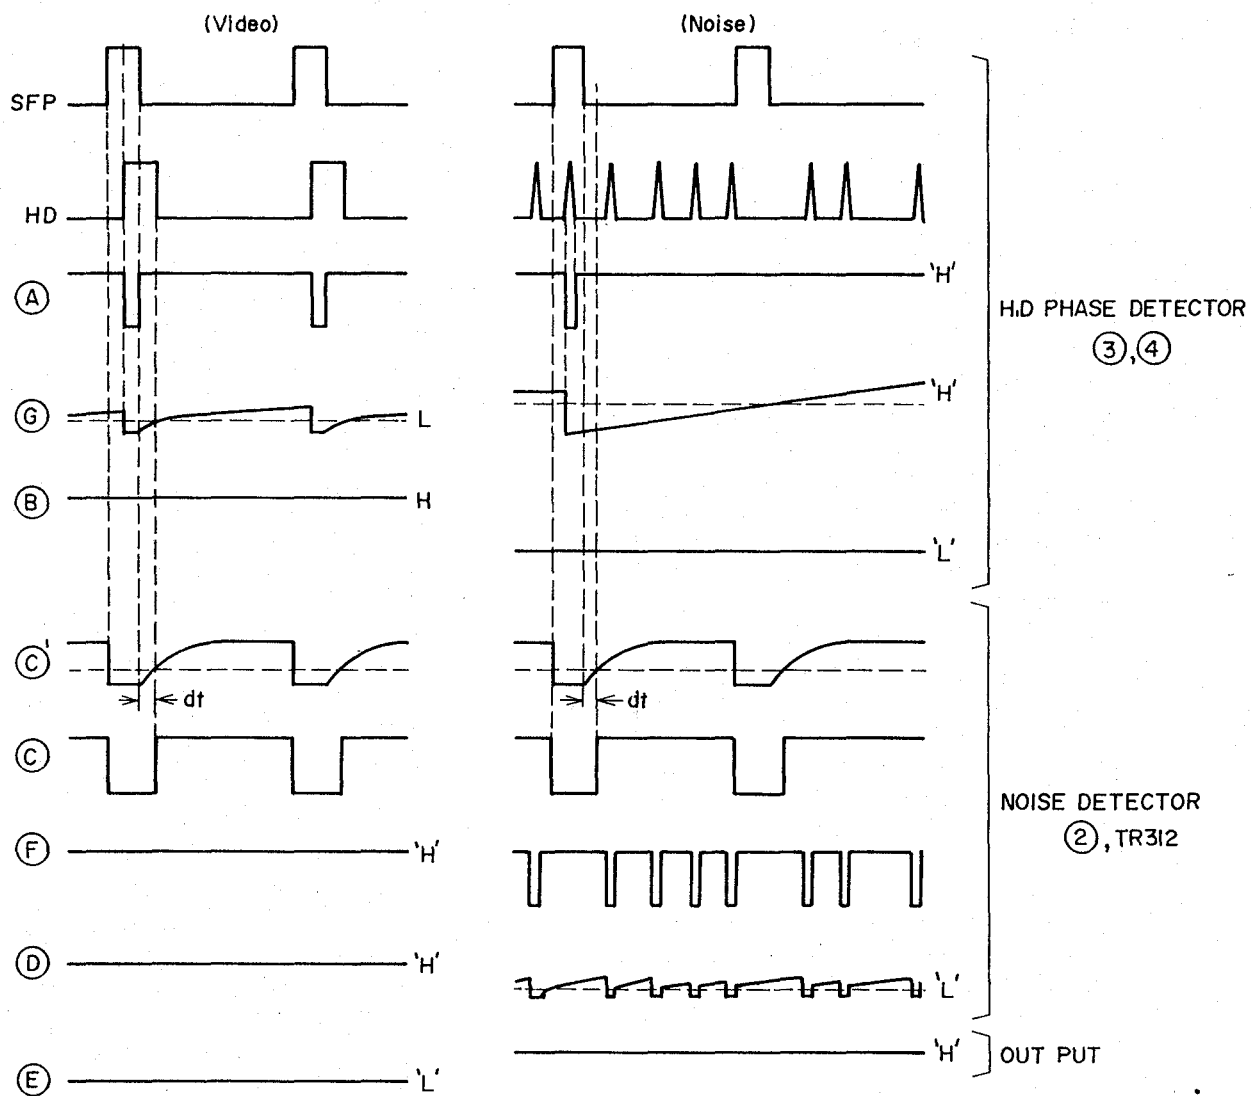

Fig. 30
When the video signal is correctly inputted into the video amplifier, 160 fH is locked by the input sync and has the same phase, and at that time, the output will be "L" at the point where the phases are in conformity as shown in (A). Since the time constant of the discharging direction of C324 of R366//D308 and C324 circuit is almost '0', (G) is made 'L' by the pulse. In the case of noise, it is very rare that the phases of SFP and noise are in conformity and that (A) becomes 'L', and the level is 'H'. Gate 2 and TR312 are the circuits to check that there is no noise in the part other than the sync. SFP is inverted by TR312, and the leading edge of waveform (C) is delayed by dt by C325. Therefore, it becomes 'H' when it is in the oblique line part of the waveform (C). If there is video input, the phases of (C) and HD are in agreement and (F) keeps 'H', but in the case of noise, it becomes 'L' when noise is inputted. In C323, R365 (charging circuit) and C323, R369 (discharging circuit), R365 >> R364, so the level of (D) is 'L' and output E is H. On the contrary, when there is video input, both (B) and (D) become 'H' and the output is 'L'. (See Fig. 30)